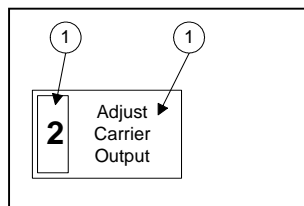

Figure 3-3: Direct Softkey Control 2
The second type of Direct Softkey Control is shown in Figure 3-3 and denoted by these two (2) features: